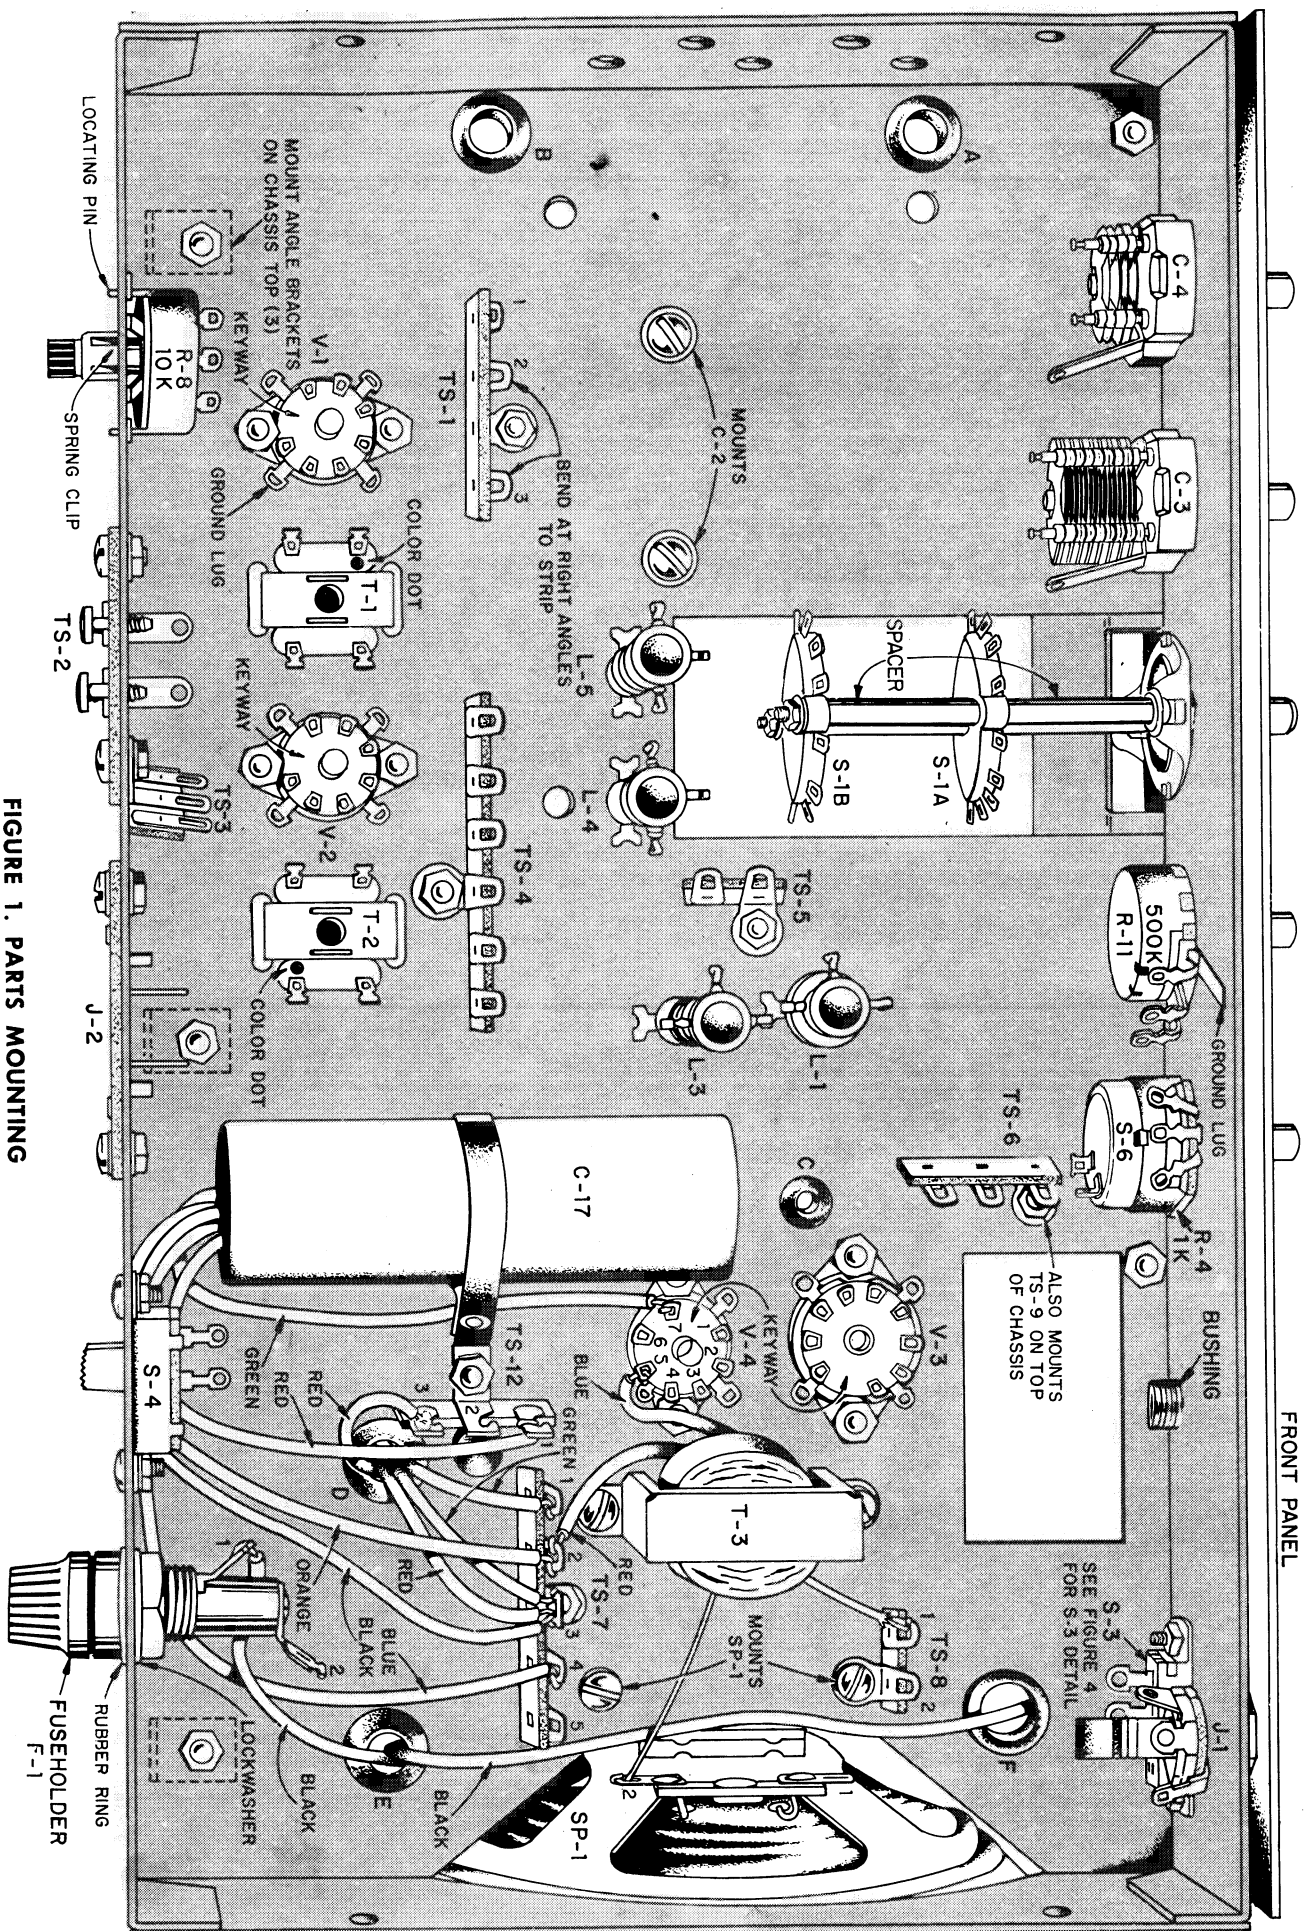

FIGURE 1. PARTS MOUNTING
- ☐ R-11, 500K control, a $\frac{3}{8}$ " lockwasher and large ground lug. Bend the tab on the side of the control flat against the face of the control. Slip the ground lug, then the lockwasher, over the shaft of R-11. Now mount R-11 and fasten with a $\frac{3}{8}$ " nut turned to finger tightness. Position R-11 and the ground lug so they are turned slightly towards R-4, as shown in Figure 1.